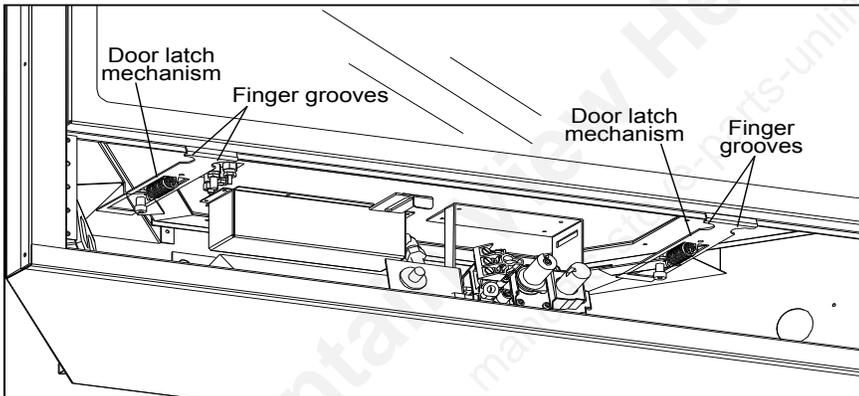
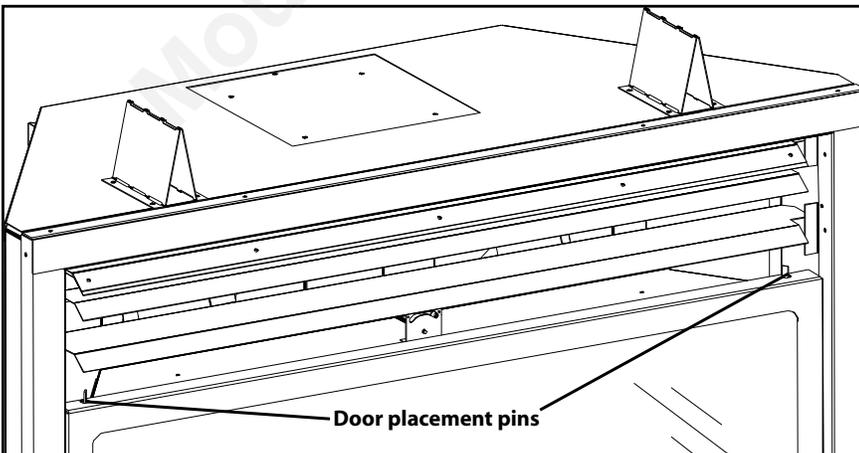

Figure 7. Bottom latches for glass.
Figure 8. Top pins for glass door.
In order to install the log set, and for regular cleaning, the glass door must be removed. There are two (2) door latch mechanisms under the glass door shown in Figure 7. Each latch has two (2) finger grooves, use these to pull the mechanisms straight out. When the bottom latches are unhooked, lift the door straight up over the placement pins at the top of the door, shown in Figure 8.
Mount the two framing mount brackets on each side and secure the fireplace to framing with screws or nails (refer to Figure 7). The brackets will allow for a $\frac{1}{2}$ " (13 mm), $\frac{5}{8}$ " (16 mm), $\frac{3}{4}$ " (19 mm) thick finishing wall. The wall may be finished up to the fireplace facing with combustible material.